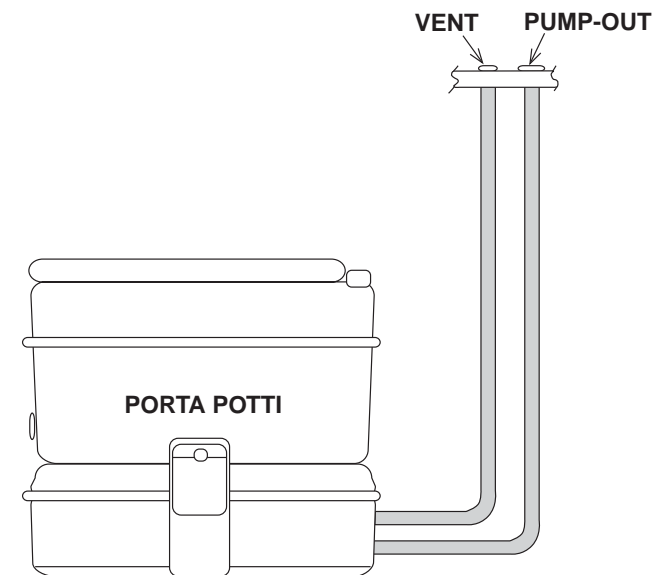

FIGURE 2.14 – MARINE HEAD WITH PUMP OUT
The Marine Sanitation Device (MSD), or head, installed on your Glastron boat, is similar to your home toilet. There are three (3) MSD illustrations depicting the various head configurations which may be installed on your Glastron boat (See Figures 2.14 through 2.16). Some units incorporate a Y-Valve that must be selected on the valve based upon your choice of directing waste. All MSDs are equipped with an air vent and pump-out plate.
MARINE HEAD WITH PUMP-OUT (SEE FIGURE 2.14)
This portable toilet (porta potti) provides simple operation and convenient disposal of waste. (See Figure 2.14) The waste can be either transported off the boat by removing the holding tank, or can be pumped out at dockside.